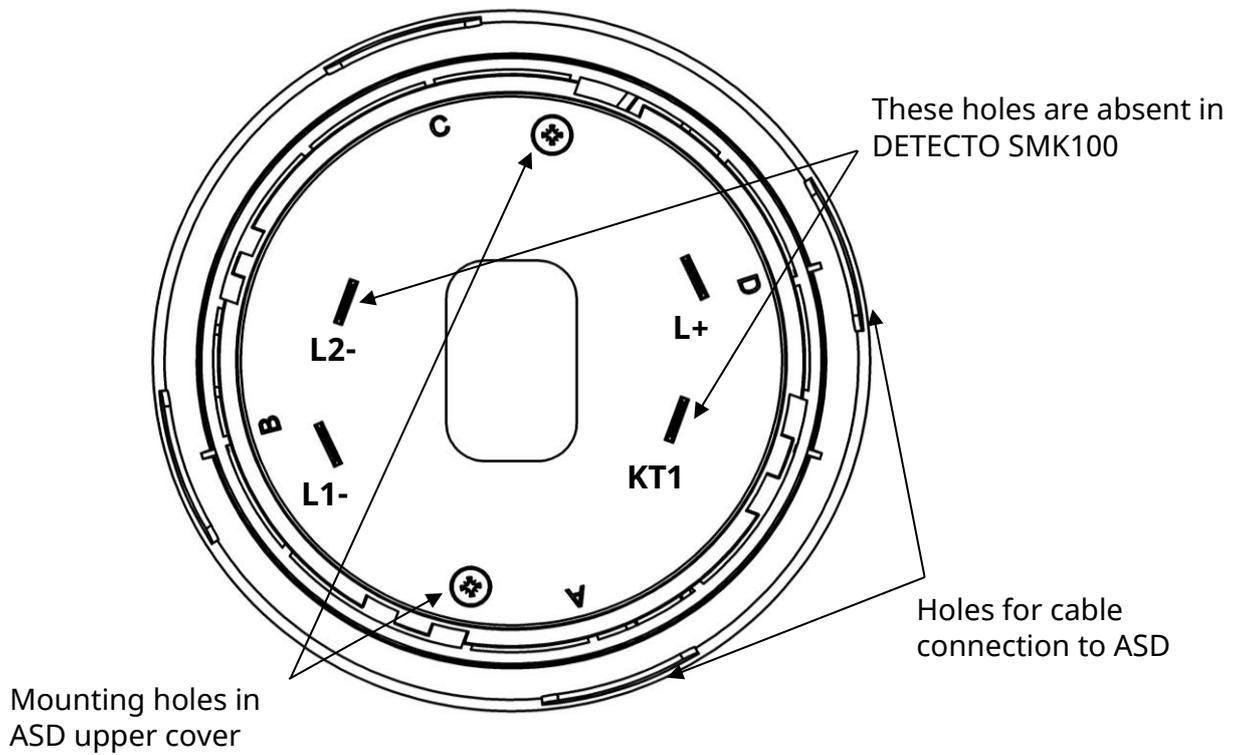
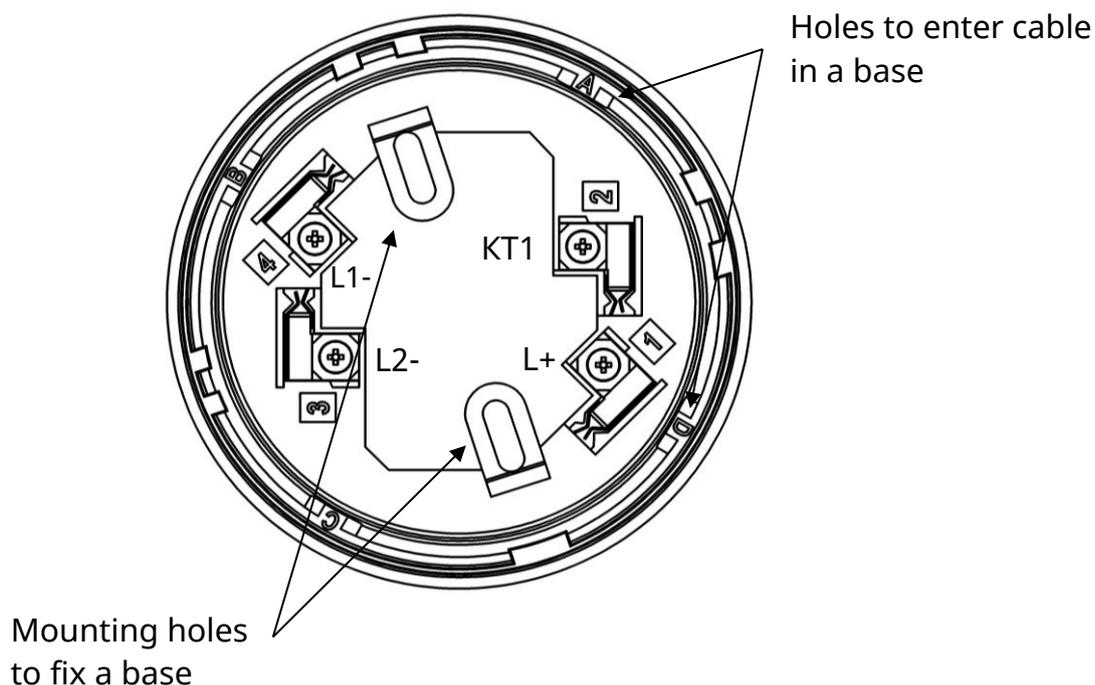

Figure 1 - ASD view from the side of the contact
Figure 3 – Terminals on the ASD base
L2-	Connection terminal for an AI negative wire. This terminal is absent in ASD DETECTO SMK100 (Fig.1)
KT1	Connection terminal for ROSD. This terminal is absent in ASD DETECTO SMK100 (Fig.1)
- 2) install the base on a flat surface, fasten it with screws according to Figure 3, after tightening the base must not be deformed.
- 3) fix AI wires in screw terminals of a base according to Fig. 3 and Table 1. There are four terminals in the base of ASD DETECTO SMK110, and there are two terminals in ASD DETECTO SMK100;
5.3 There are special slots at the side surface of ASD for the case when the cable must go inside the base from aside, the corresponding slots must be cut out. These slots are marked with the letters "A", "B", "C", "D" (Fig. 1, Fig. 3).
2) unscrew the 2 screws from the contacts on the detector housing (Fig. 1) and remove the top cover;